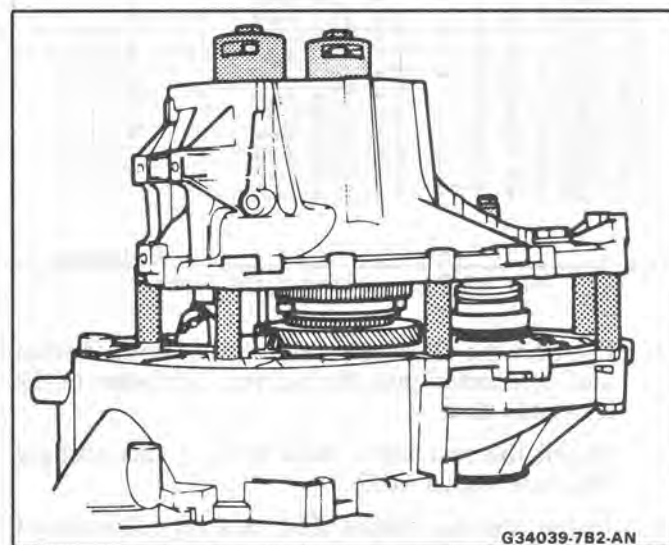

Fig. 40 Gages and Spacers in Position
- B. Place seven spacers provided with J 33373 evenly around the perimeter of the clutch housing (Fig. 40).